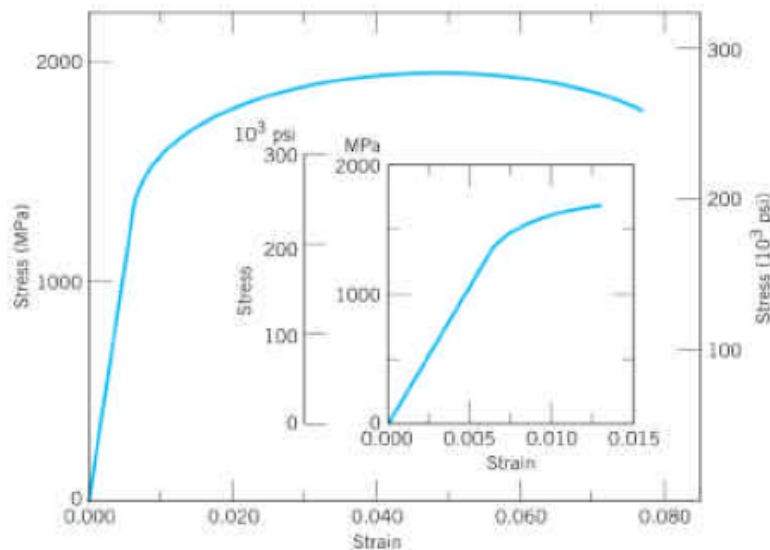

Figure 1. Stress strain curve for high strength steel
- Shown is a typical stress-strain curve for this material (Fig 1). Label the yield stress and ultimate tensile stress.